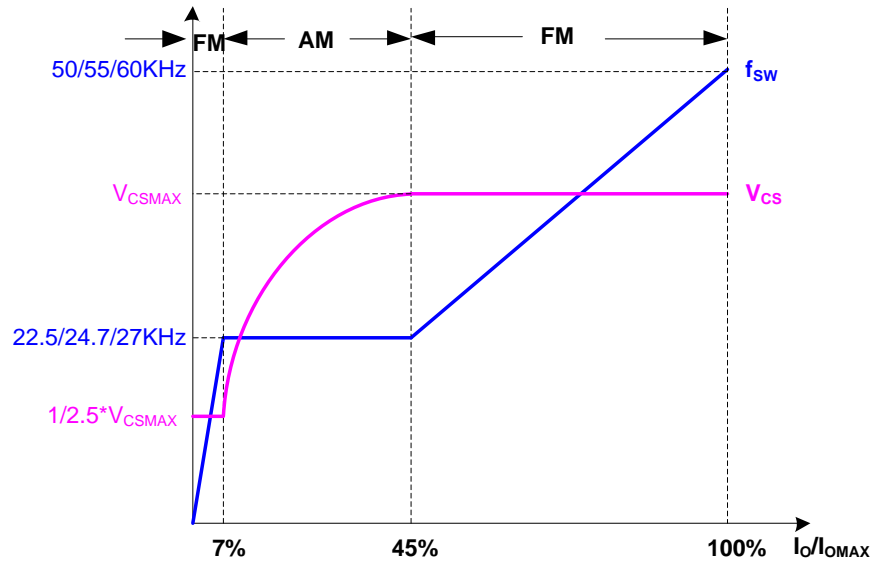

Figure 5. Segment Peak Current and Operating Frequency at CV Mode
In order to avoid audible noise issue, AP3984 uses 3-segment primary peak current control method at constant voltage (CV) mode, the current sense threshold voltage is multiple segments with different loading, as shown in Figure 5, which are  $V_{CS\_H}$  for high load, varied  $V_{CS\_M}$  for medium load and  $V_{CS\_L}$  for light load. In no load and ultra light load condition (NL mode), the current reference is also  $V_{CS\_L}$ . But the operation in NL mode is different, which will be described in next section.